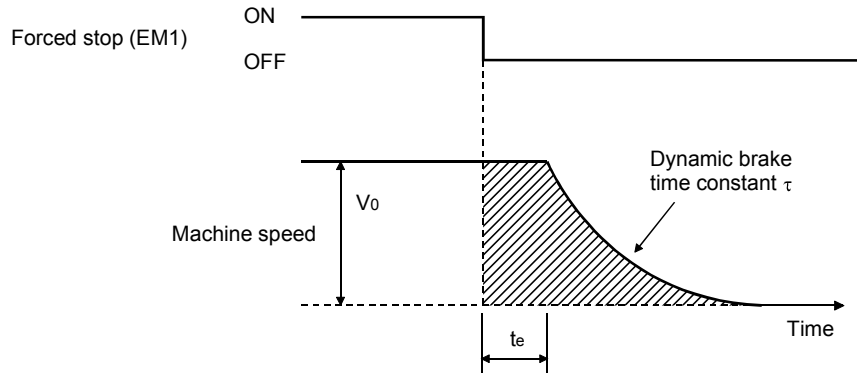

Fig. 15.2 Dynamic brake operation diagram
Fig. 15.2 shows the pattern in which the servo motor comes to a stop when the dynamic brake is operated. Use equation 15.2 to calculate an approximate coasting distance to a stop. The dynamic brake time constant τ varies with the servo motor and machine operation speeds. (Refer to (2) of this section.)